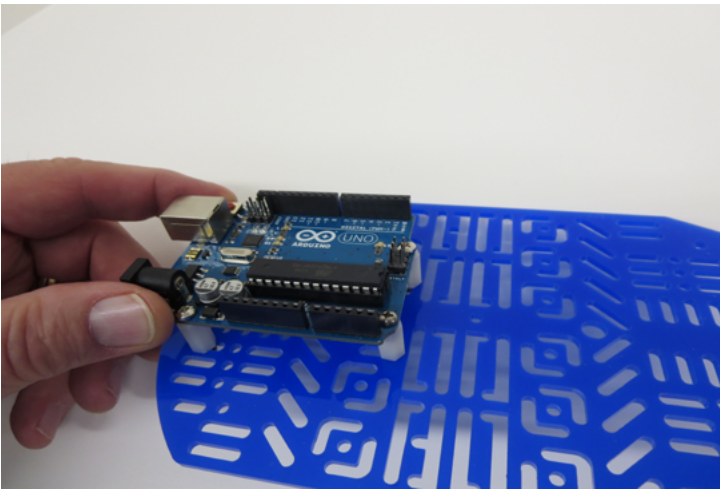

Fig.3
2. Stop after Step 7 and install the Arduino Uno on the top plate using the three provided nylon spacers as shown in Fig. 3, 4.